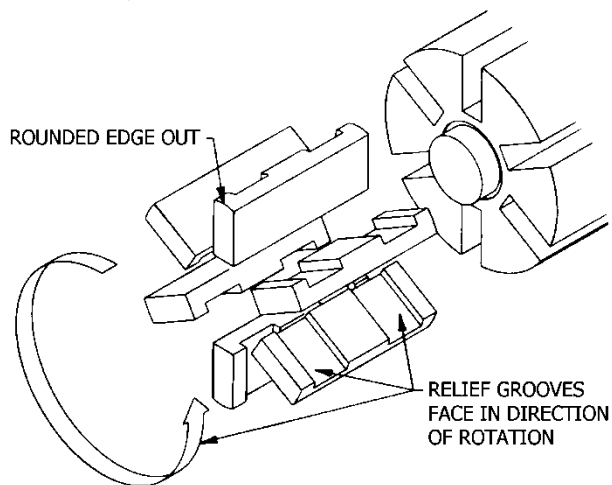

Figure 4 – Vane Replacement
4. Install a new vane, ensuring that the rounded edge is UP, and the relief grooves are facing towards the direction of rotation. See Figure 4.
6. Remove the vanes (14) and push rods (77) from the rotor and shaft assembly. Inspect for wear and damage, and replace as follows:
- a. Insert the vanes into the bottom three rotor slots with the relief grooves facing in the direction of pump rotation, and with the rounded edges outward. See Figure 4.